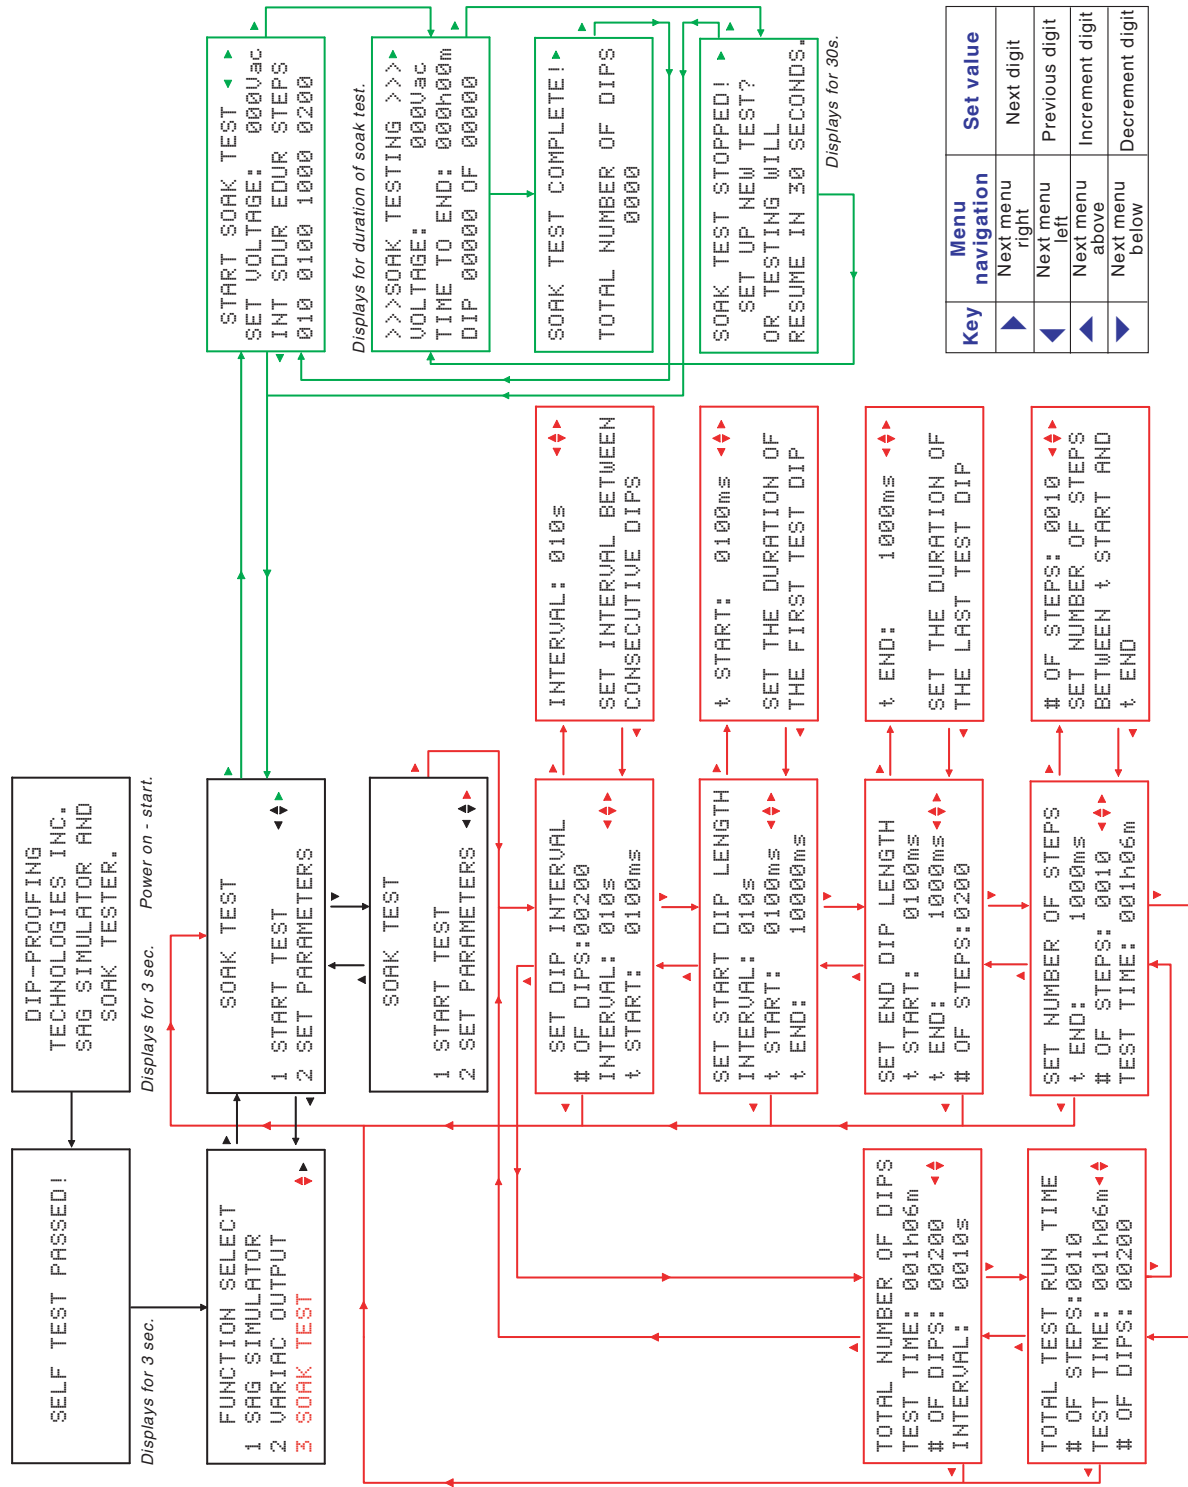

Fig 4 Programming key function table & Soak Tester flowchart.
3. A variable interrupt timer that is used to set the duration of the voltage sag and the point in the cycle at which it begins. Both variables are set using the programming keys and are indicated on the LCD display. Refer to the menu flow chart and programming key function table in Fig 3 p7 for Sag Simulation, page 8 for Variac Output and Fig 4 p11 for Soak Test.
Follow the steps outlined below to set up and operate the Soak Tester. Refer to Fig 4 on page 11 for information on menu layout and programming key functions.